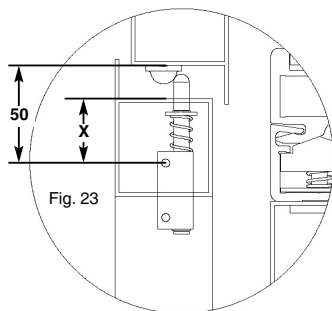

Fig. 23
- Calculate the centre of the top slot (quota X) so that the distance between this and the supporting plane of the coupling (see Fig. 57, 58) is equal to 50 mm (Fig. 23).